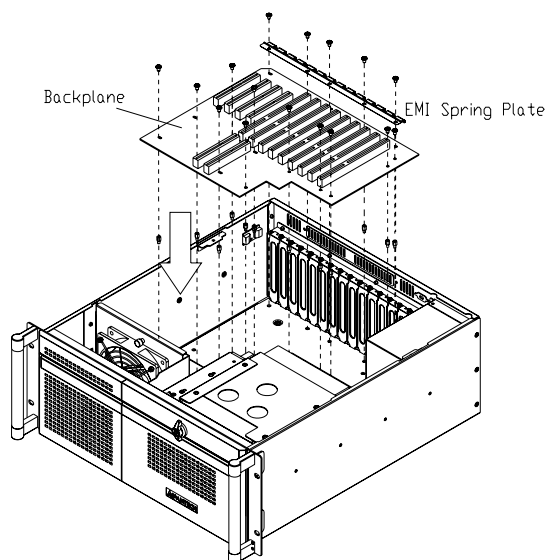

Figure 2.2 Installing a backplane
- While installing a BACKPLANE, put it in place and then attach the supplied EMI spring shielding onto it. Then fasten the screws provided. (see Figure 2.2),